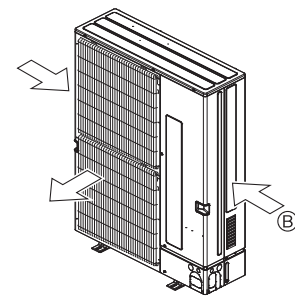

Fig. 12-1-2b
- ② Position the unit so that the air outlet blows perpendicularly to the seasonal wind direction, if possible. (Fig. 12-1-2b)